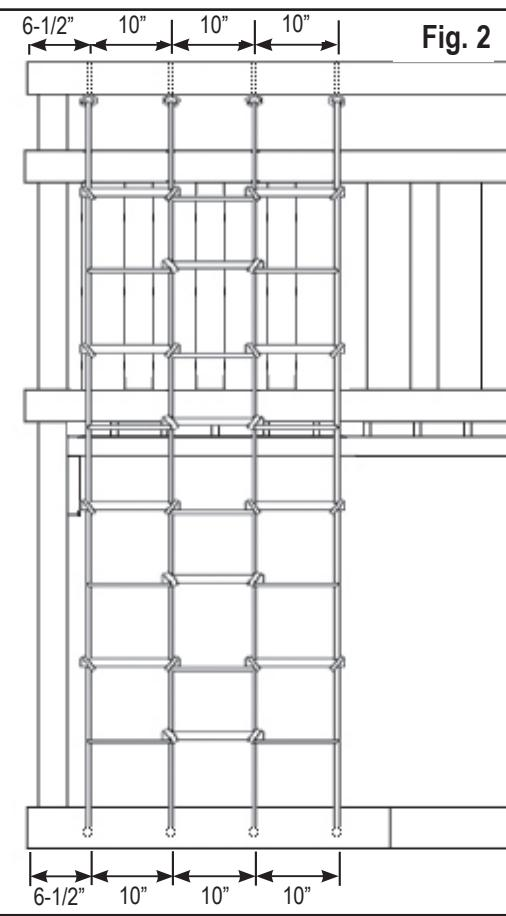

Fig. 2
5. Drill four 5/16" holes in the top board and four 3/8" holes in the bottom board as indicated in Fig. 2. **NOTE:** Drill through the bottom of the 2" x 4" board to the top. Insert the eye bolts of the Cargo Net through the holes of the top board and secure all of them using a washer and loc nut (see Fig. 3). **NOTE:** Using a hacksaw, remove excess threads of the eyebolt as close to loc nut as possible.